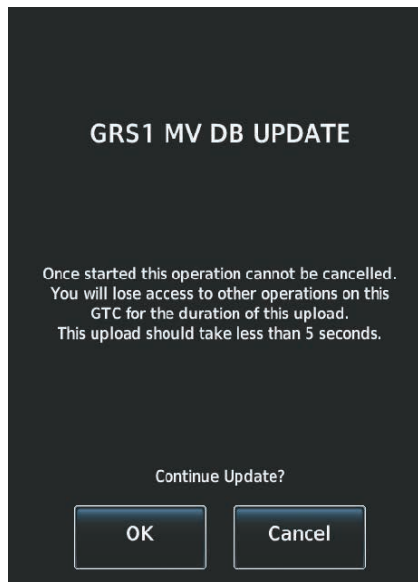

Figure B-12 GRS1 Magnetic Field Variation Database Update Prompt (Touchscreen Controller)
The Magnetic Field Variation Database is loaded as part of the navigation database, but is copied to, and resides within each AHRS (GRS1 and GRS2). At startup, the system compares the MV DB within the navigation database to that presently residing in each AHRS (GRS1 and GRS2). When a new navigation database is loaded, the system may determine the newly loaded MV DB within the navigation database is newer than that residing in each AHRS. In this case, the system will prompt for an update. This prompt is displayed on the Touchscreen Controller (GTC), as shown in Figure B-12. Note, in this example, GRS1 is the first AHRS to indicate an update is available. In actuality, this is dependent on which AHRS is the first to report status to the system. GRS2 may be displayed before GRS1. The order is not important, only that both AHRS be updated.
- 1) With the MV DB prompt displayed, as shown in Figure B-12, touch the **OK** Button. A progress monitor is displayed as shown in Figure B-13.